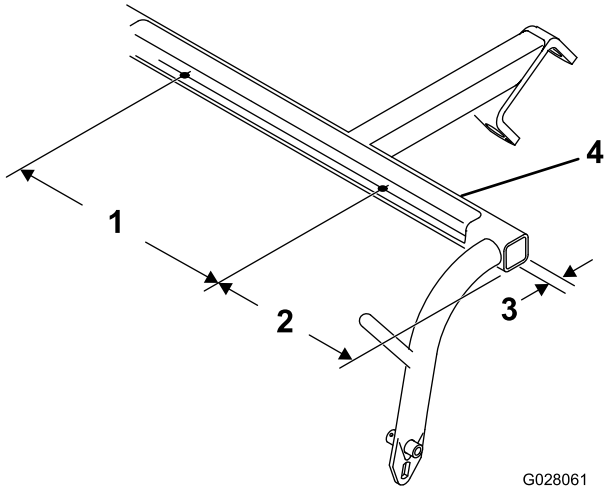

Figure 2
- Using the dimensions shown in Figure 2, drill 2 holes with a diameter of 5.6 mm (0.221 inch) on the underside of each pull-arm cross tube.